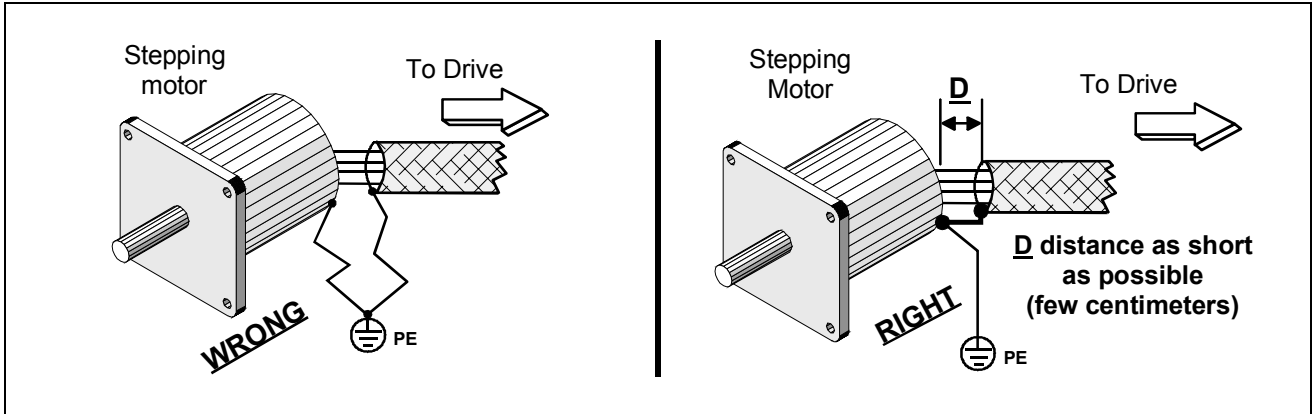

Fig. 10 Shielded connection at stepping motor side.
- Connect earth line to motor chassis. From the point of view of radio-frequency emissions shielding, it is usually sufficient the connection to machine chassis assured by mounting flanges and screws, as long as both screws and chassis are made of conductor material and the chassis is connected to earth. See fig. 10.